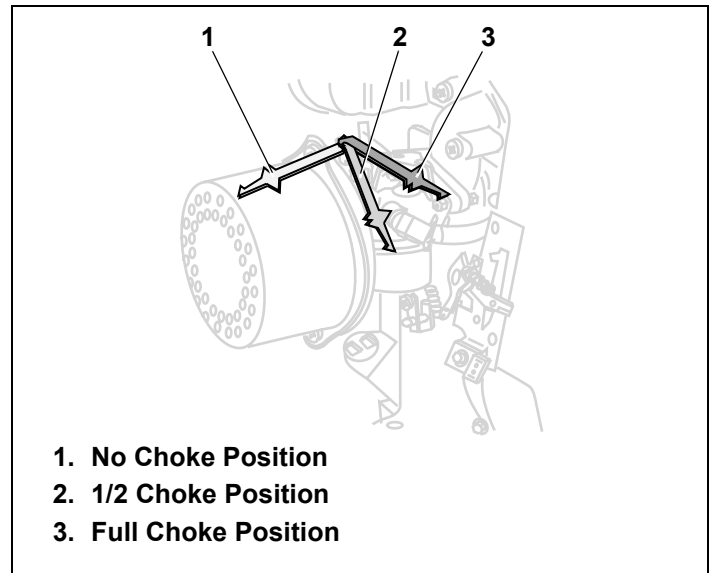

Figure 26. Choke Control Positions
- a. Momentarily move Choke Control “1/2 CHOKE” position until engine runs smoothly. See Figure 26.
- a. Momentarily move Choke Control back to “FULL CHOKE” position. See Figure 26.